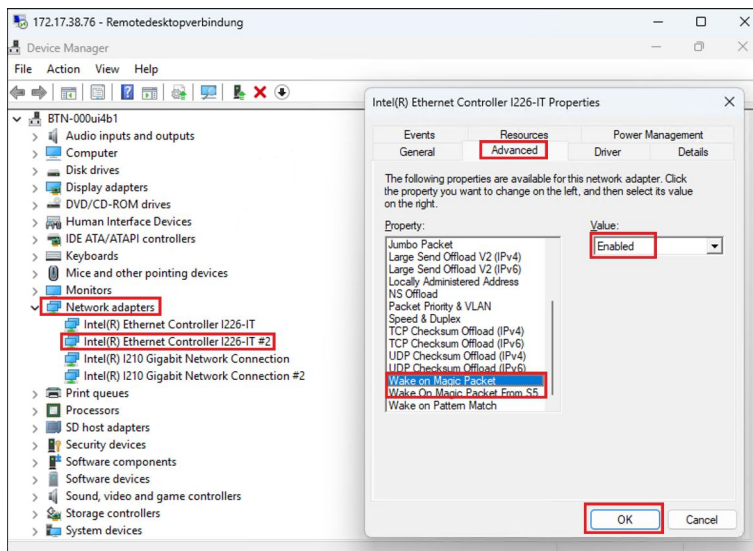

Fig. 14: Activate function
2. Lift the PC far enough so that the fastening screws slip into the keyholes (see fig. 14).